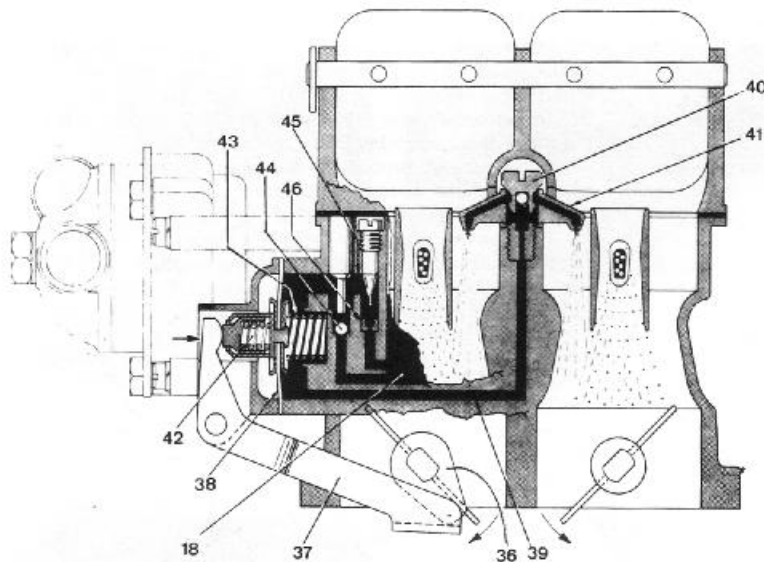

Fig. 9.7 Carburettor acceleration phase (Sec 3)
injects into both venturis. Reference to Fig. 9.7 will show that when the throttle valves are closed, the accelerator pump diaphragm (38) draws fuel from the float chamber (18), through the ball valve (44) into the pump chamber. When the throttle valves are opened, the cam (36) moves the lever (37) and fuel is forced along the channel (39), through the delivery valve (40) and out of the pump jet (41). The spring (42) absorbs the initial movement of the lever (37) and prolongs the fuel delivery period. Excess fuel and any accumulated air is discharged into the float chamber (18) through the channel (45) and calibrated bush (46).